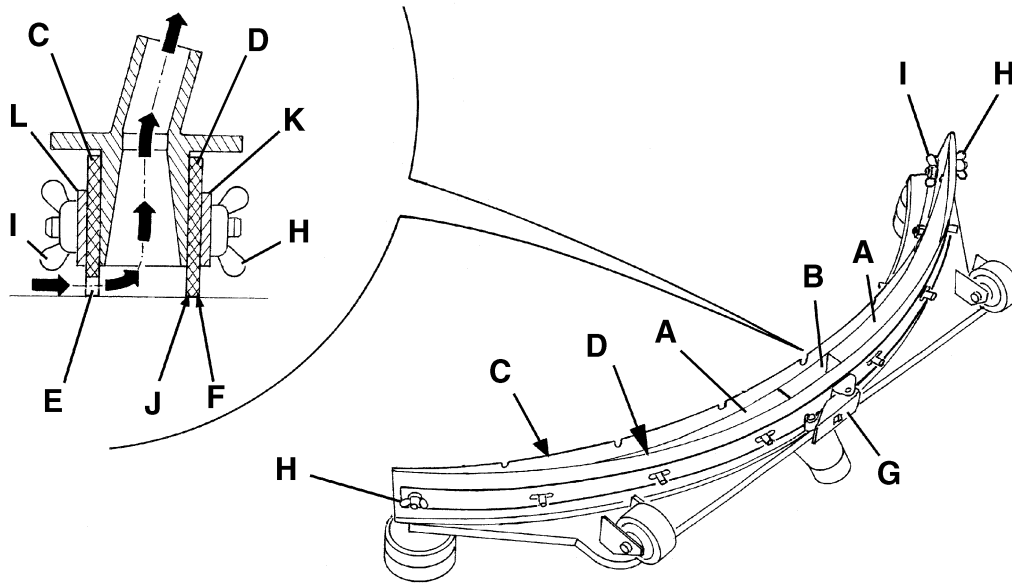
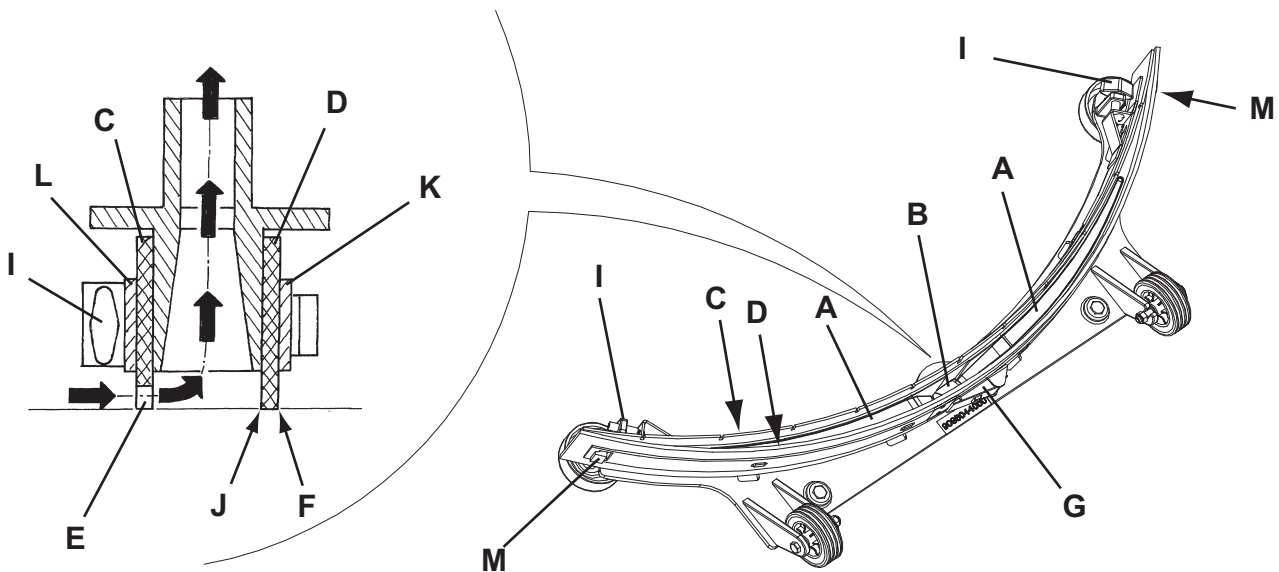

Figure 5
Figure 6
2. Turn the ignition key (80) to "0" position.
3. Lower the squeegee (25) with the lever (10).
4. Loosen the handwheels (26) and remove the squeegee (25).
5. Disconnect the vacuum hose (15) from the squeegee.
6. Clean the steel squeegee (Fig. 5) or the aluminum squeegee (Fig. 6). Clean the compartments (A, Fig. 5 or 6) and the hole (B) especially. Check the front blade (C) and the rear blade (D) for integrity, cuts and tears; otherwise replace them (see the procedure in the following paragraph).
1. Clean the steel squeegee (Fig. 5) or the aluminum squeegee (Fig. 6), according to the procedure shown in the previous paragraph.
2. Check that the edges (E, Fig. 5 or 6) of the front blade (C) and the edges (F) of the rear blade (D) lay down on the same level, along their length; otherwise adjust their height according to the following procedure:
- Release the tie rod (G, Fig. 5 or 6) and loosen the wing nuts (H, Fig. 5), or disengage the retainers (M, Fig. 6) and adjust the rear blade (D, Fig. 5 or 6), then tighten the wing nuts or engage the retainers, and engage the tie rod.
- Loosen the handwheels (I) and adjust the front blade (C, Fig. 5 or 6), then tighten the handwheels.
3. Check the front blade (C, Fig. 5 or 6) and rear blade (D) for integrity, cuts and tears; otherwise replace them according to the following procedure. Check that the front corner (J) of the rear blade is not worn; otherwise, overturn the blade to replace the worn corner with an integral one. If the other corners are worn too, replace the blade according to the following procedure:
- Disengage the tie rod (G), remove the wing nuts (H) or disengage the retainers (M), remove the retaining strip (K) and replace/overturn the rear blade (D).
- Unscrew the handwheels (I) and remove the retaining strip (L), then replace the front blade (C).